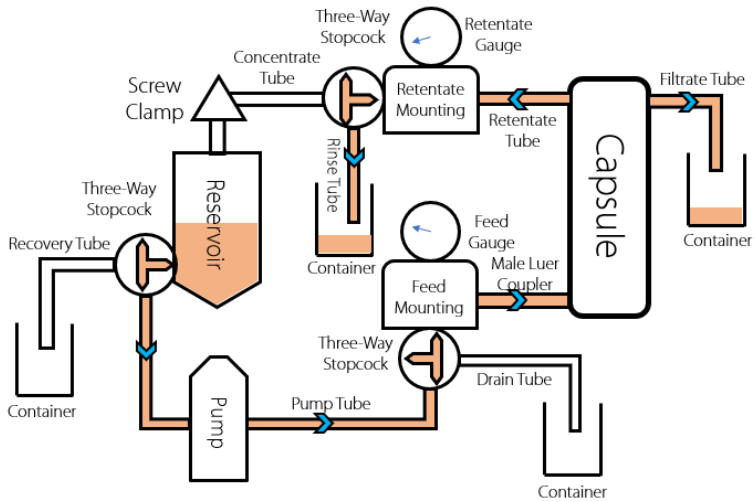

Figure 7
- Set the three-way stopcocks and adjust the flow path as shown in figure 7. Pour the rinsing solution into the reservoir.